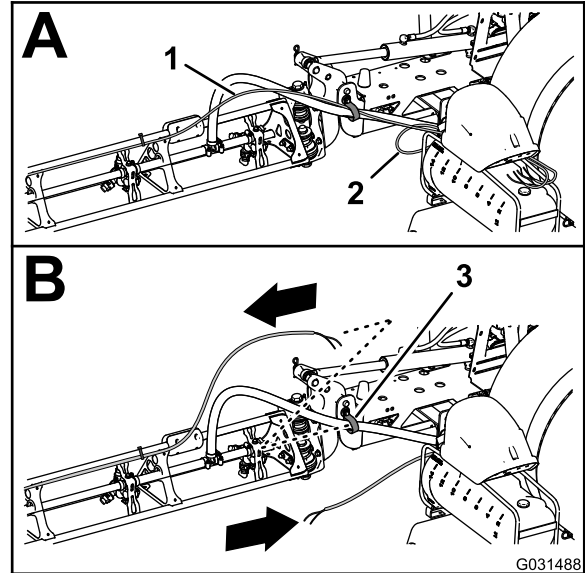

Figure 24
5. Move the tubes for the foam nozzles at the left and right boom section rearward and through the R-clamp near the pivot point for the boom section (Figure 24).